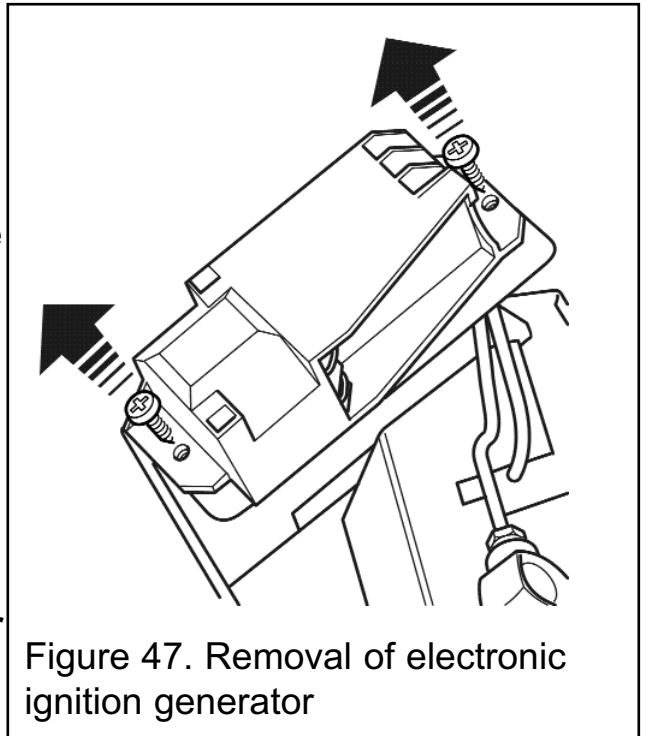

Figure 47. Removal of electronic ignition generator
4. Unscrew the two fixing screws that attach the generator unit to the support bracket. The igniter generator can now be removed (See figure 47). Between the igniter and the bracket are two spacer washers that must be kept.